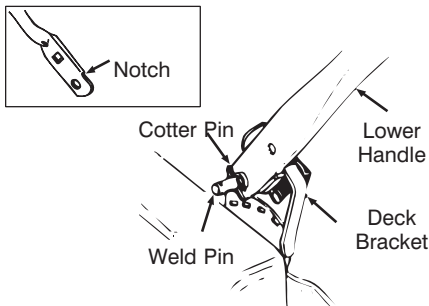

Figure 1
- There is an off-set hole in the lower handle to provide you with two handle height adjustments. Handles mounted with the notch (see inset, figure 1) forward or upward will be lower than handles mounted with the notch towards the rear of the unit.
- Secure with cotter pins in the inner holes in the weld pins. See figure 1.